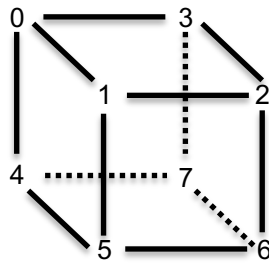

Figure 5-1 Connection of vertices of a hexahedral element
- unsigned int * connections: A pointer to the connection list of vertex IDs that make up a hexahedral element. The configuration of the hexahedral element is shown in Figure 5-1. The n-th vertex of the i-th hexahedral element is referred to by connections [8 * i + n].